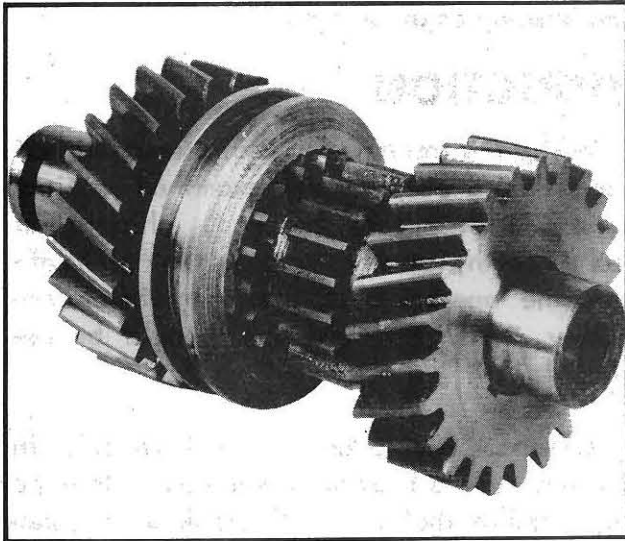

Fig. 240
1. Replace the reverse gear assembly. Install the bronze washer with the grooved-side facing the reverse idler gear. The washer has a small hole which permits locking at the rear of the transmission housing. Install the shifter collar with the side marked "FRONT", facing the front of the tractor, see Fig. 240. The beveled teeth of the reverse driver gear must mesh with the beveled teeth on the shifter collar. Secure the shaft in place with the lock plate and cap screw.